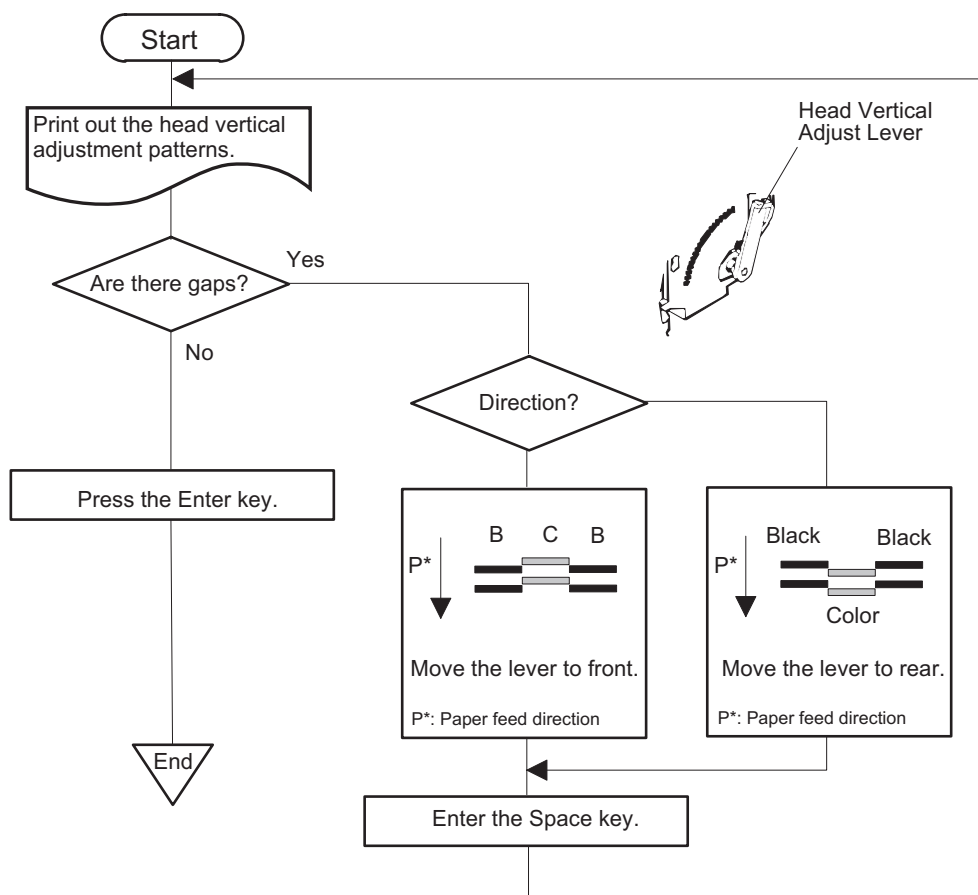

Figure 4-7. BK-M Height Adjustment Flow Chart
6. Make the adjustment by moving the head vertical adjust lever, as shown in Figure 4-7.